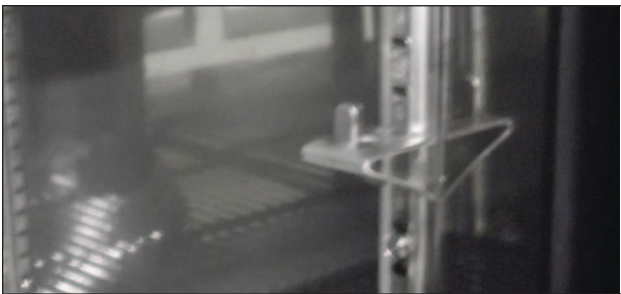

Figure 3. Shelf Bracket
2. Reposition each bracket separately. Grasp the middle of the bracket, pull the front end up and out, then forward to remove it. See Figure 3.